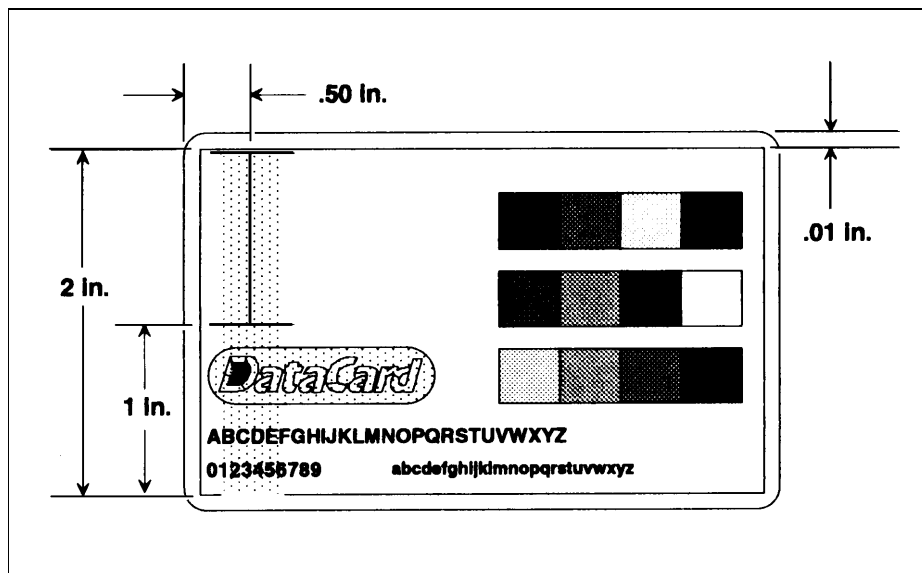

Figure 2-37. Test Card
4. When the Card LED blinks, use the insertion slide to insert a blank card and print a test pattern (Figure 2-37) on it.
- Dimensions shown in Figure 2-37